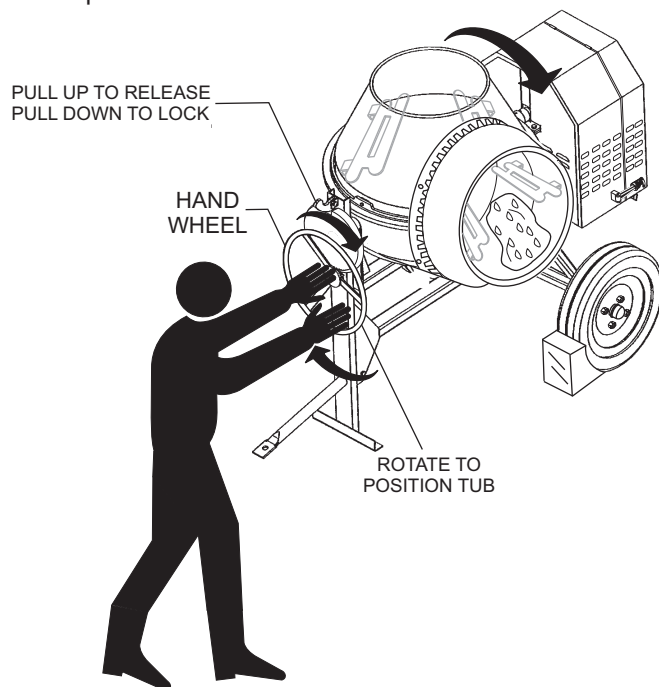

Figure 13. Mixing Drum Position
1. To position the tub, make sure the mixer is placed on firm level ground, then **pull up** on the **dump latch** (Figure 13) and turn the **hand wheel** until the tub is at the desired position. Once the tub is at the desired position, **pull down** on the dump latch to lock the tub in position.